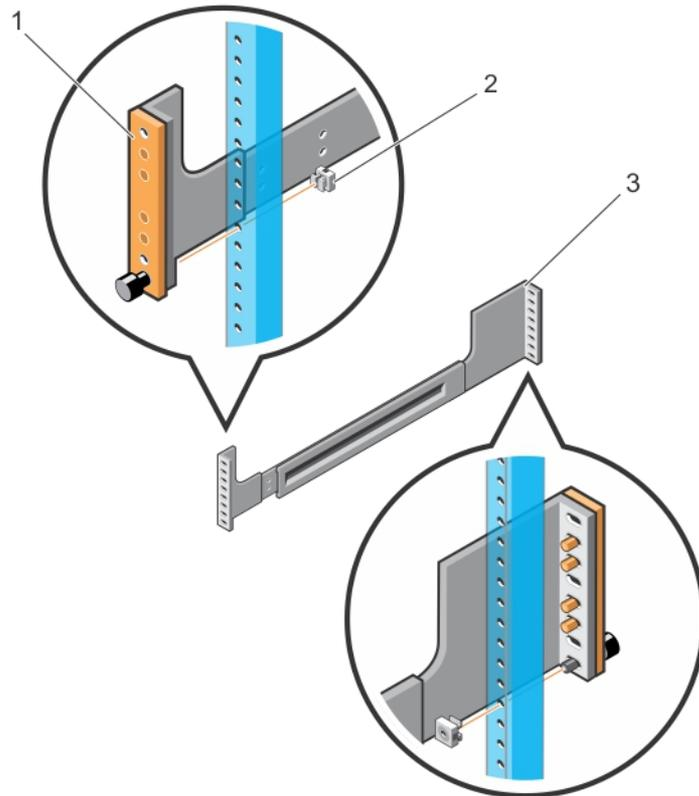

Figure 11. Installing Tool-less Rails in a Non-Threaded-Hole Rack
- b Install a cage nut (item 2 in Figure 11) in the left front post at the desired height of the thumb screw on the left front rail.
- e Start with the rear left rail (item 3 in Figure 11); align the thumb screw with the cage nut and holes on the left rear post. Gently press the rear rail end into the rack post and tighten the thumb screw in the cage nut to secure the rail to the post.
- f Align the thumb screw on the front left rail with the cage nut (items 1 and 2 in Figure 11) inserted in the front post. Press the front end of the rail forward and tighten the thumb screw so that it locks into the cage nut.